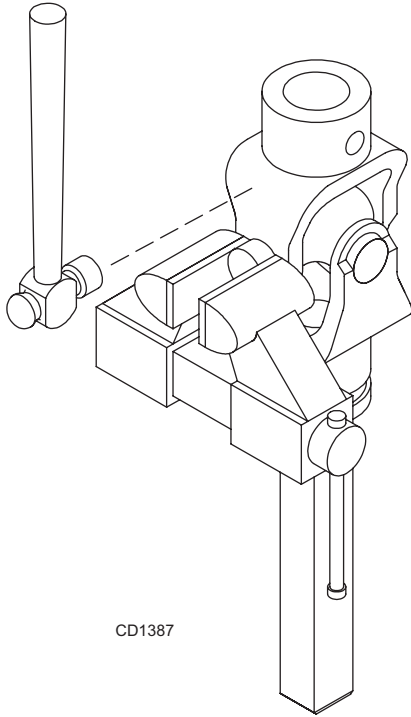

Figure 16
3. Clamp cup in vise as shown in Figure 16 and tap on yoke to completely remove cup from yoke. Repeat steps two and three for opposite cup.